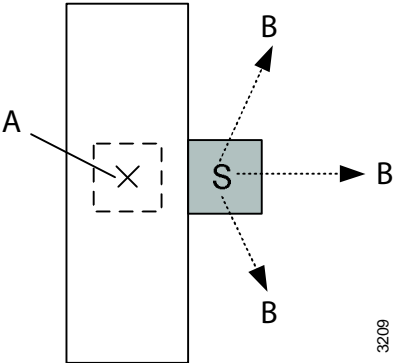

**Fig. 2-4** Scattered radiation rate expressed in percent of central beam dose rate, with and without shielding
The diagram below, **Fig. 2-4**, shows the dependency of the scattered radiation on the distance from the central beam, height above the floor and kV potential. The decrease of the scattered radiation is expressed in percent of the central beam exposure rate (100%). The diagram also shows the decrease of scattered radiation when using protective clothing, also this expressed in percent of the central beam dose rate.
**Fig. 2-4**, shows that a higher kV increases the scattered radiation slightly. The diagram also shows that the best way to minimize the effect of the scattered radiation is an increased distance to the patient and by using a lead apron.